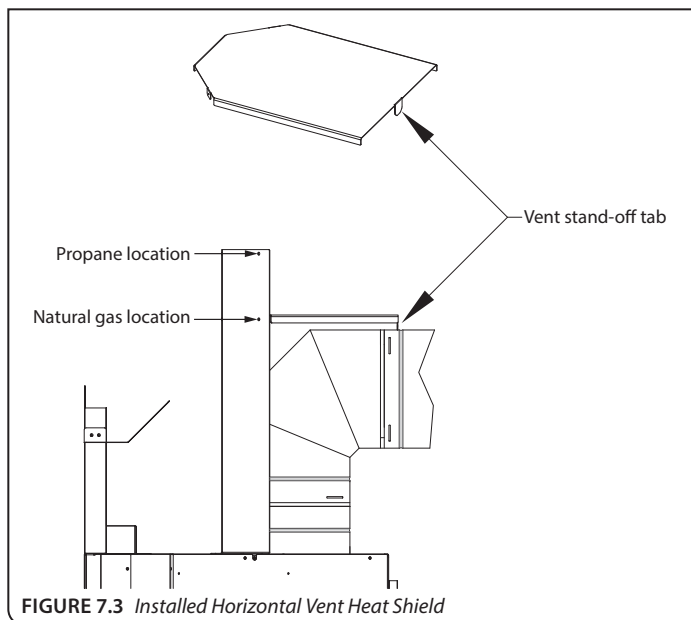

FIGURE 7.3 Installed Horizontal Vent Heat Shield
1. Bend perforation on the (3) hand-tabs down on the horizontal vent heat shield.
2. Locate (3) screw holes on the vertical vent heat shield. There are (2) sets of screws holes, allowing for either natural gas or propane minimum horizontal venting. See **FIGURE 7.3**
3. Align the (3) slots on horizontal vent heat shield tabs to the corresponding (3) screws holes on the vertical vent heat shield necessary for your installation.